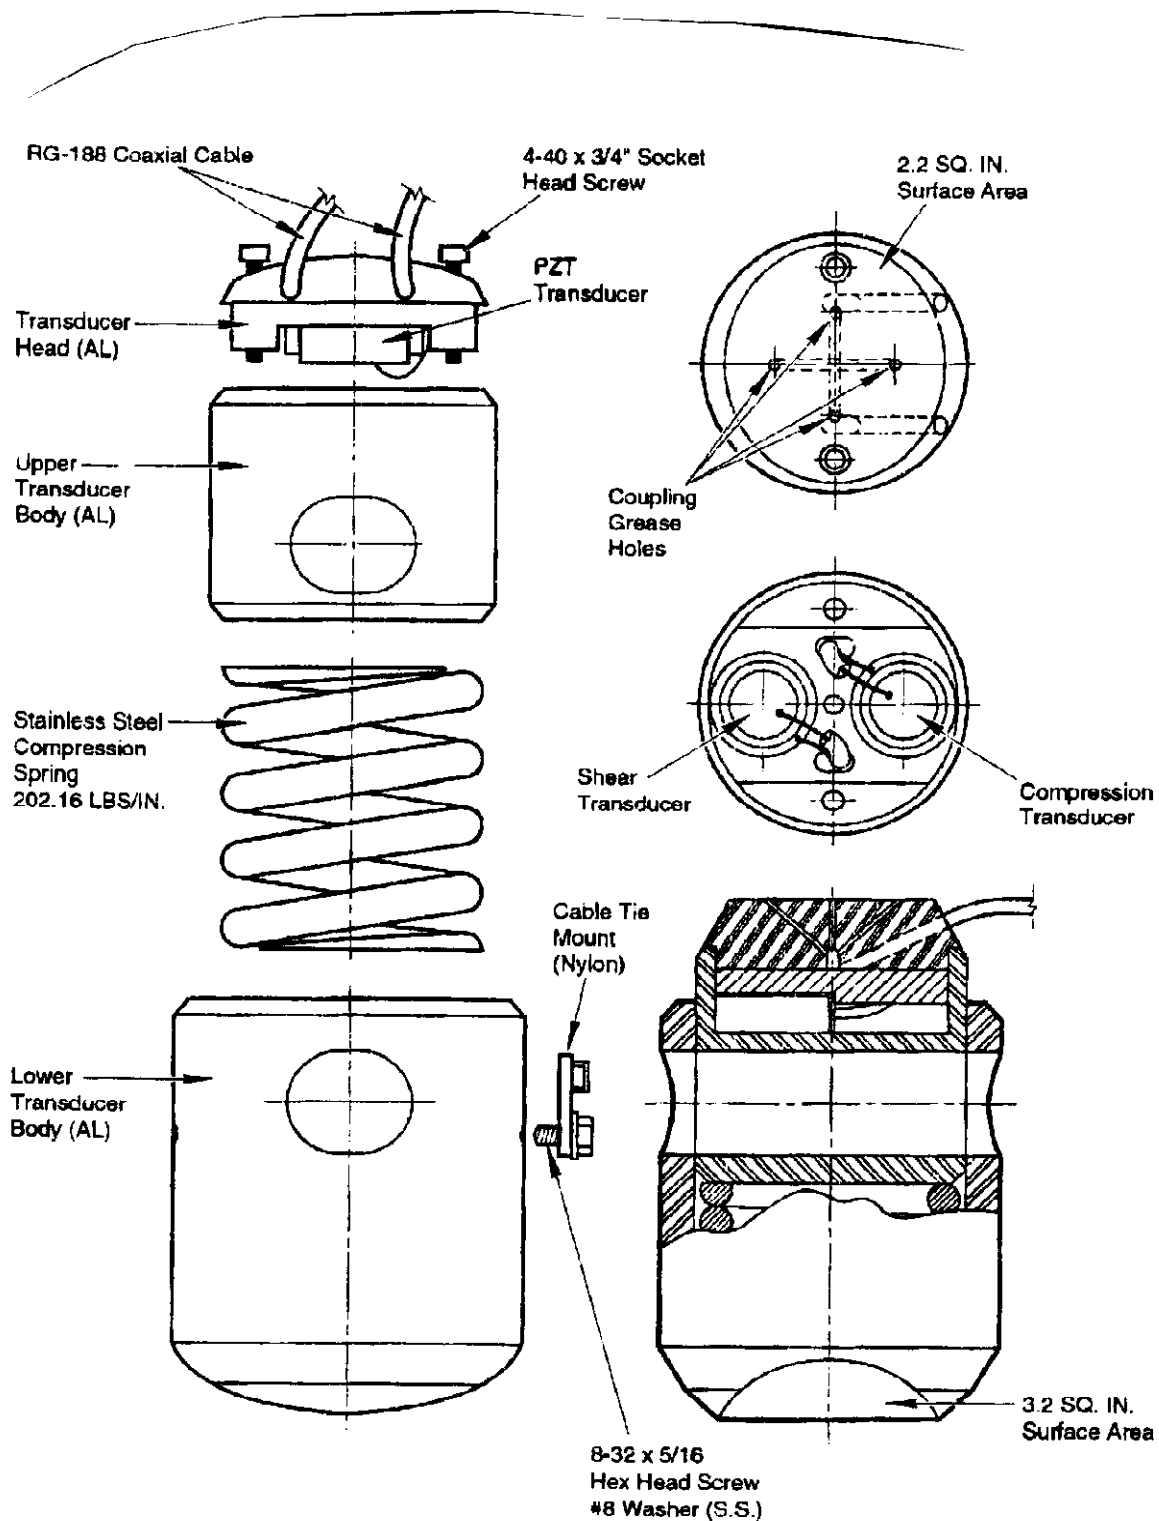

Figure 2. Transducer diagram
- L. Bring the transmitter and receiver transducer heads together. See Figure 2 for location of transducer head on the transducer body.
- B. Using the grease gun and injector needle, refill the couplant chamber in the transducer head through the couplant holes (see Figure 2). The transducer head has about 1/8